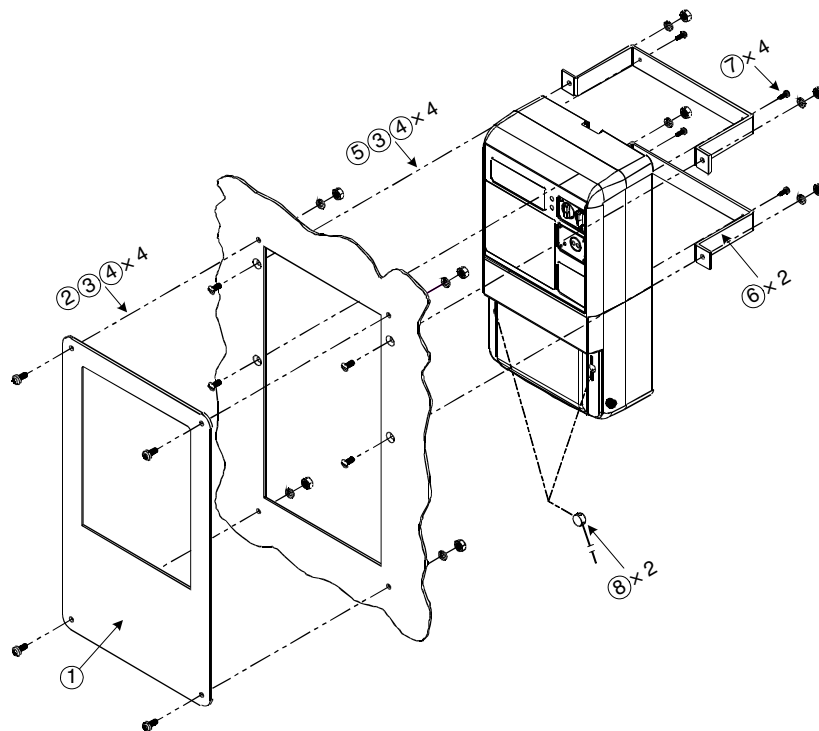

Figure 1. Installing the A1800 ALPHA meter using the flush mount kit
Referencing the callouts in Figure 1, verify that the correct hardware, panels, etc. using the description and quantity listed below. Contact Elster if you discover missing or broken hardware.
| Description                         | Callout in Figure 1 | Quantity | Elster style number |
- 2.** Referencing Figure 1, mount the two brackets on the back of the meter using the 4-blind holes and the 4 self-threading screws (⑦). Be careful not to over-tighten to prevent stripping out of the plastic.
- 3.** Mount the meter to the back of the panel cut-out using the four M5 × 0.8 mm × 12 mm flat head screws (⑤), along with the lockwashers (③) and hexnuts (④) using the 4-countersunk holes. The holes should be countersunk adequately for the heads to be flush or below the surface.